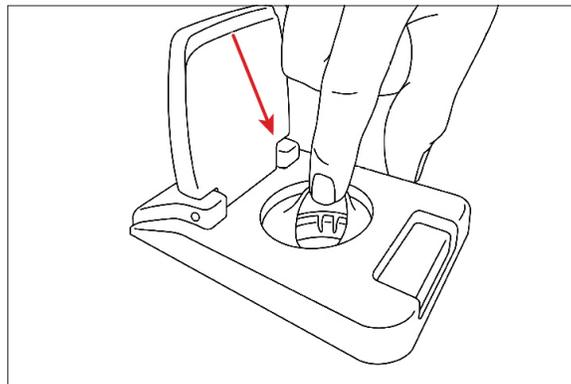

Fig. 3
3. Turn the AirShuttle back over and suspend it over the edge of a flat surface so that there is no support directly under the air inlet or the now-free edge of the air bearing. Pull the rubber gasket aside with a finger to reveal the air bearing bushing (Fig. 3).